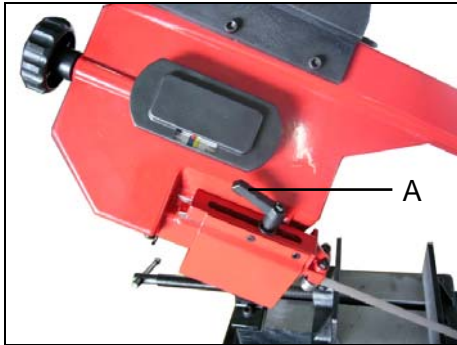

Fig. 24
An unbounded handle (A) in Fig.24 is mounted on the unit for freely changing blade guide device position by loosens it counter-clockwise.
1. If the work is big, loosen the handle (A) in Fig.24. Move the guide toward the work about one inch then tighten the handle.
2. The saw uses fixed ball bearings and can be adjusted ball bearing by eccentric bearing shaft (B) in Fig.24, 25 to keep the tolerance with the blade. For keeping proper cutting, the best way is to replace them every three or six months depending on the frequency of service.